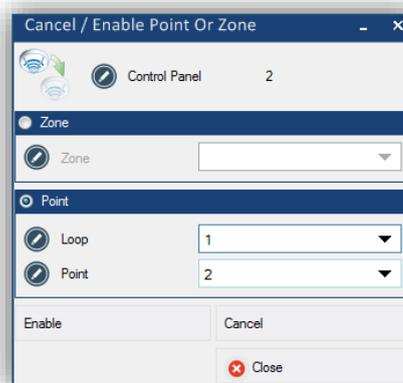

Figure 58. Menu to enable or cancel points or zones of a control panel.
- The menu shown in Figure 58 allows enable/disable zones or points individually. To enter,